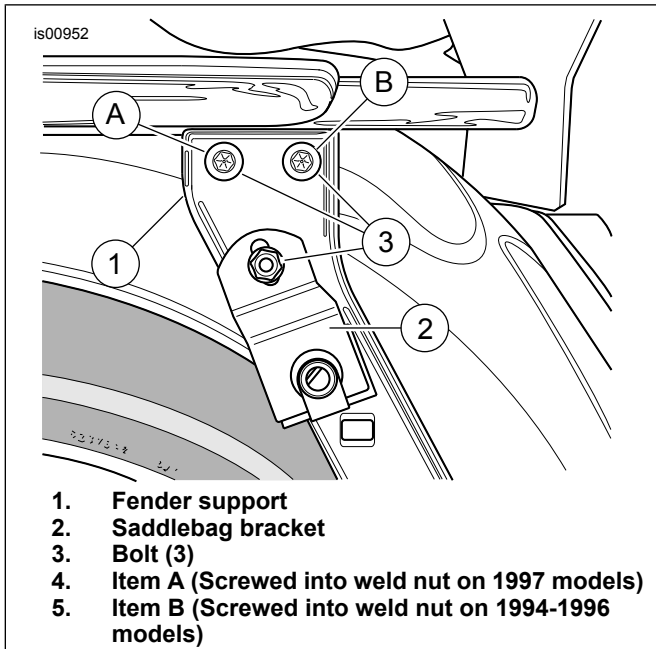

Figure 1. Stock Bolt Removal
5. See Figure 1. Remove and discard the three screws from each side of the motorcycle. Note the fastener configurations described in the illustration. Keep the spacer for saddlebag and bracket installation.